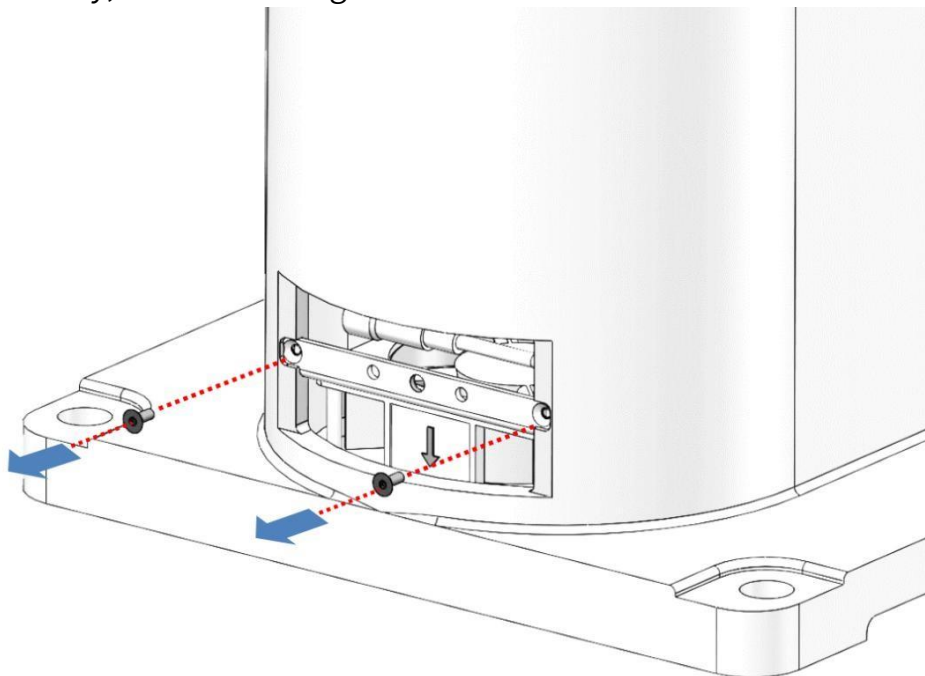

Figure 5-4 Remove the fan assembly
Step 3 Use the Allen wrench to remove the fastening screws from the fan assembly, as shown in Figure 5-4.